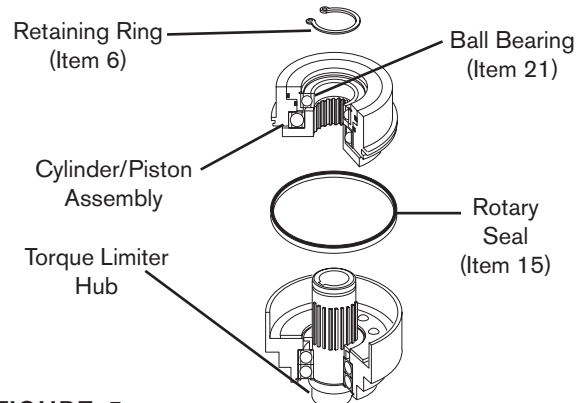

FIGURE 5
7. While fully supporting the inner race of the Ball Bearing (Item 21), press the Cylinder/Piston Assembly onto the Hub of the Torque Limiter (See Figure 5).
8. Install Retaining Ring (Item 6) (See Figure 5).